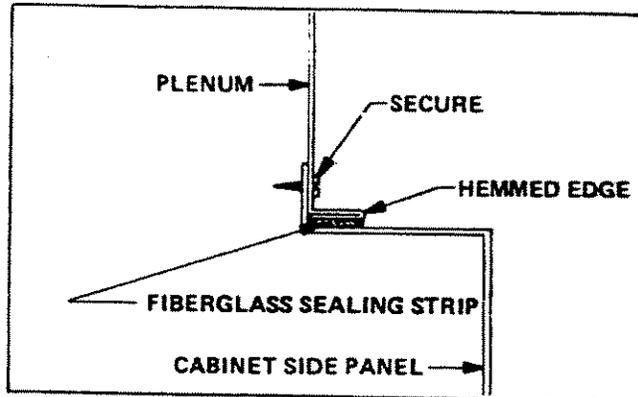

FIGURE 3
- 1 - Bottom edge of plenum should be flanged with a hemmed edge (See figure 3).